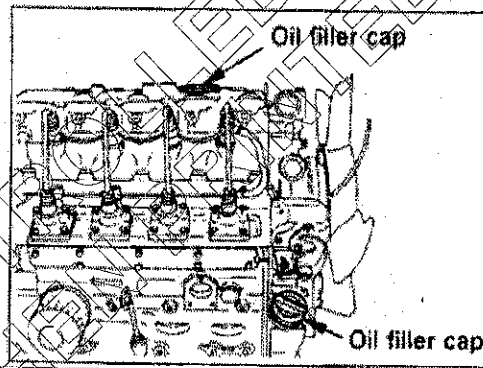

Fig 7 Oil filler caps
- 33 Oil is poured either through the oil filler at the front of the cylinder head cover or through the oil filler on the right side of the timing gear case (Fig 7). A certain period of time is required before the engine oil completely flows down from the oil filler to the crankcase. Check the oil level ten or twenty minutes after oil replenishment.